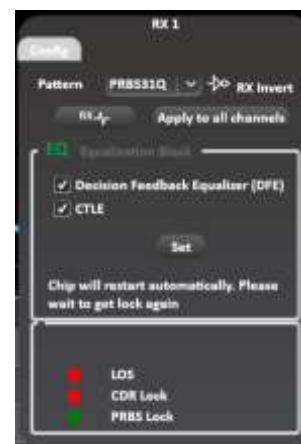

Figure 17: Rx Channel Display & Control Tab
- **Enable/Disable TX control for each channel (TX ON/OFF).** Once turned off, the control of TX settings is disabled: channel control is locked from any selections, and TX output is turned off (Figure 17).